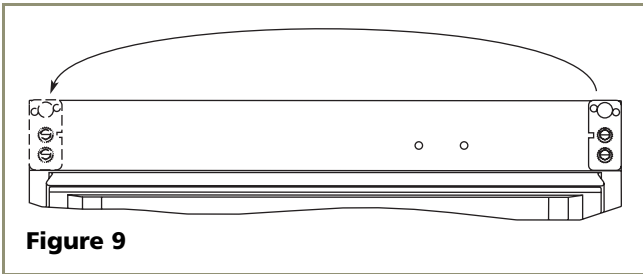

**Figure 7**
3. Remove top hinge (3 screws), reinstall hinge screw pin, and remount on opposite side BOTTOM (see **Figure 7**).